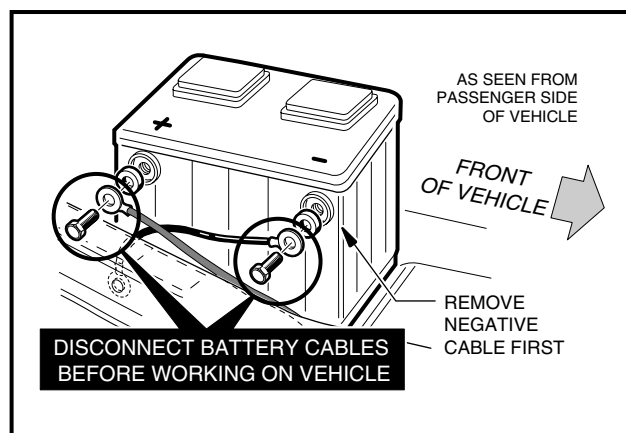

Figure 1 Battery Cable Removal
- Disconnect the battery cables, negative (–) cable first (Figure 1, Page 6).